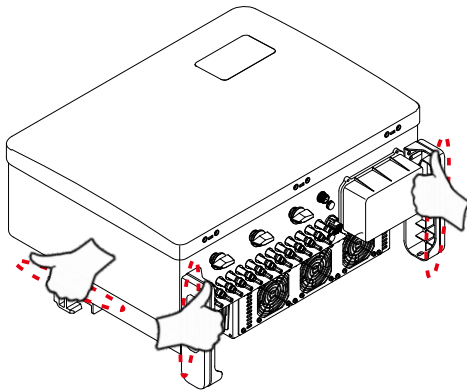

Figure 3.4 PV Inverter handles
2. Two people are required to remove the PV Inverter from the shipping box. Use the handles integrated into the heat sink to remove the PV Inverter from the carton (see Figure 3.4).